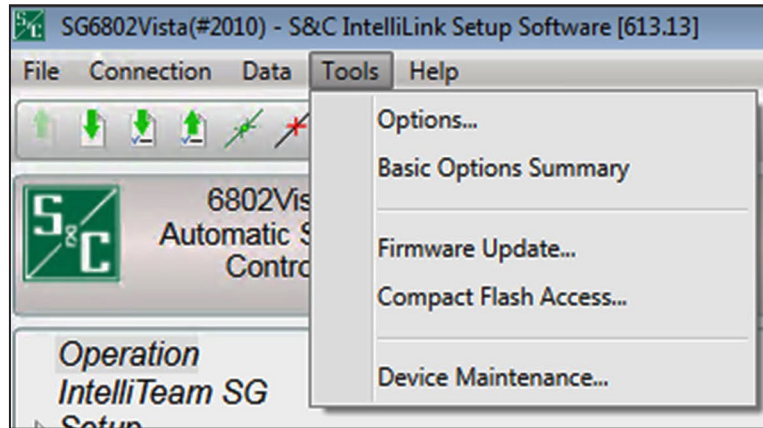

Figure 31. The Tools>Firmware Update menu option.
**STEP 12.** Enter the Admin password when prompted to enter credentials. The default password can be obtained by contacting the Global Support and Monitoring Center at (888) 762-1100. If the default password has been changed, enter the user-configured password.
**STEP 13.** In the **Tools** menu on the menu bar, click on the **Firmware Update** menu item. See Figure 31.